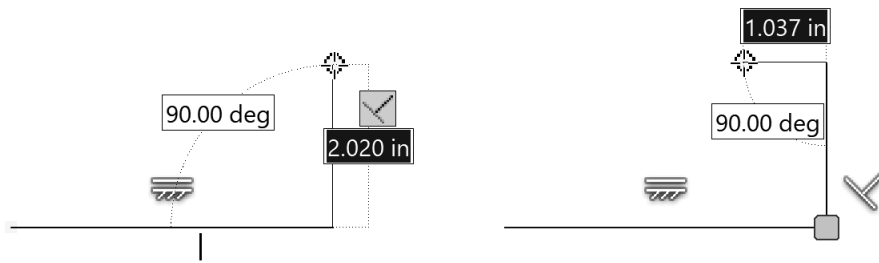

Figure 2.30
- 5 Move the cursor up until the perpendicular constraint symbol displays beside the first line and then click to create a perpendicular line that is approximately **2 inches** as shown in Figure 2.30 left.
- 6 Move the cursor to the left and create a horizontal line perpendicular to the vertical line that is approximately **1 inch**. The perpendicular constraint symbol is shown in Figure 2.30 right.